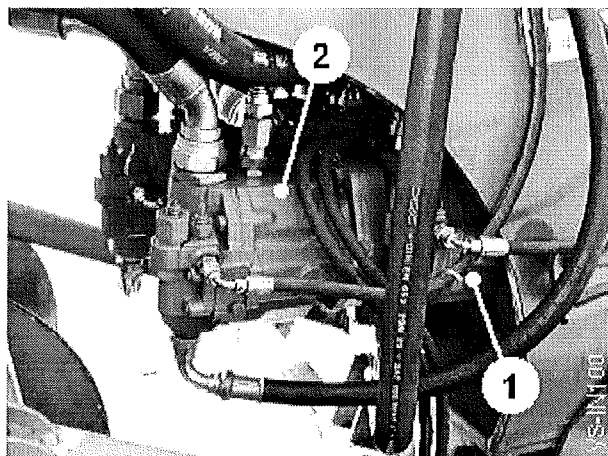

Fig 33
The RH front pump (item 1, fig 33) powers the digger web, and the two sets of rotary agitators on the digger web. The control of all three of these circuits is with on/off, and proportional speed control from the control box. Digger web speed should be adjusted to give a consistent crop take-away from the shares, and the agitators used to the minimum to separate the loose soil from the crop.
When fitted, the RH rear pump (item 2, fig 33) is used to supply the power driven axle. The double acting valve controlling the axle drive is switched for forward and reverse from the control box. For the forward drive a proportional control is also fitted to allow